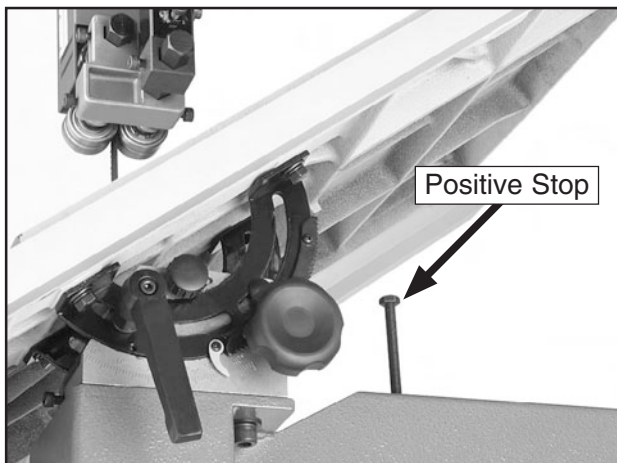

Figure 25. Installed positive stop bolt.
3. Thread the positive stop bolt into the threaded hole on bandsaw body as shown in **Figure 25**.